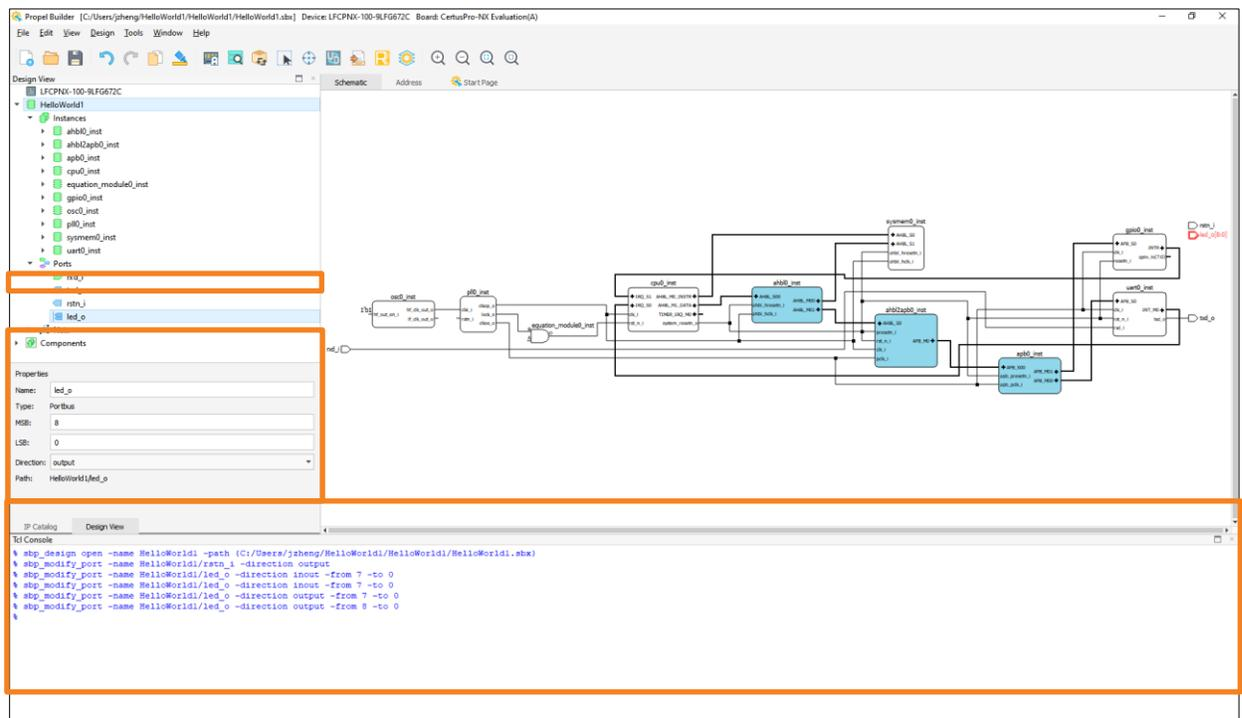

Figure 2.78. PortBus Direction
- e. PortBus MSB, LSB and direction can be modified. Click on PortBus and then use the drop-down menu to choose the desired direction (Figure 2.78).